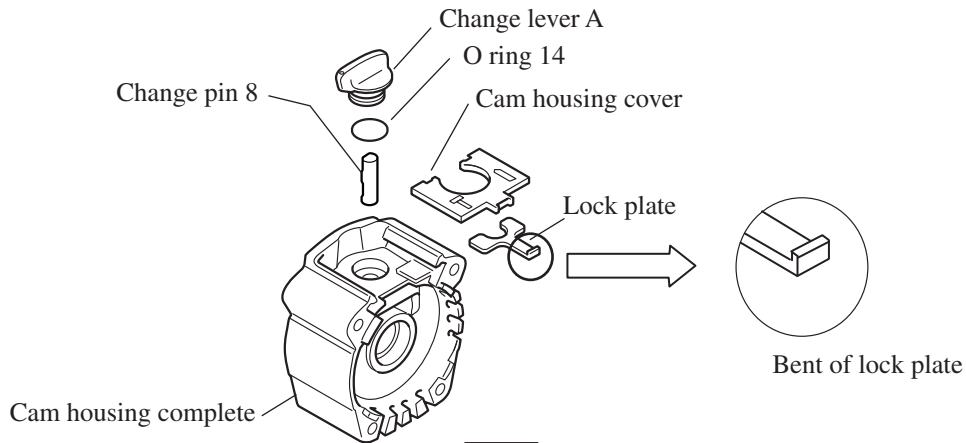

Fig.6
A. Bent of lock plate has to be faced to change lever side as illustrated in Fig.6.